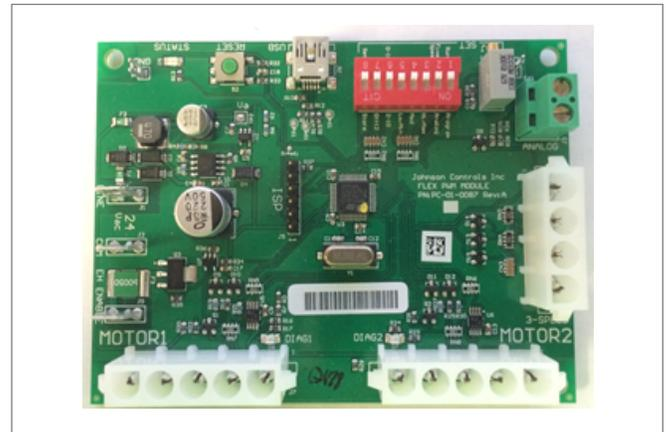

Figure 49 – G3 PWM Board
- a. Locate the G3 PWM board within the control enclosure (See Figure 49).